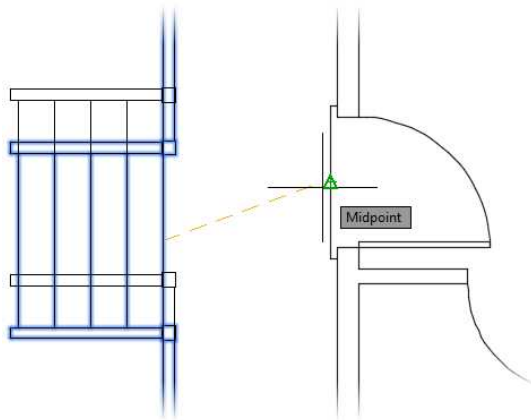

FIGURE 5.35: Select the midpoint of the threshold as the Y and Z components of the second point.
7. Click the Snap To Midpoint button in the Object Snap toolbar, and then click the midpoint of the threshold (see Figure 5.35).